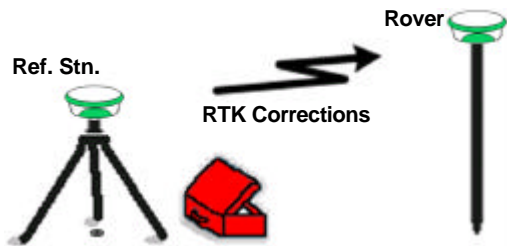

Figure 2: Principle of single baseline RTK
2. Sending corrections to the rover via a communication link (normally a one-way radio modem or GSM connection) (Fig. 2).